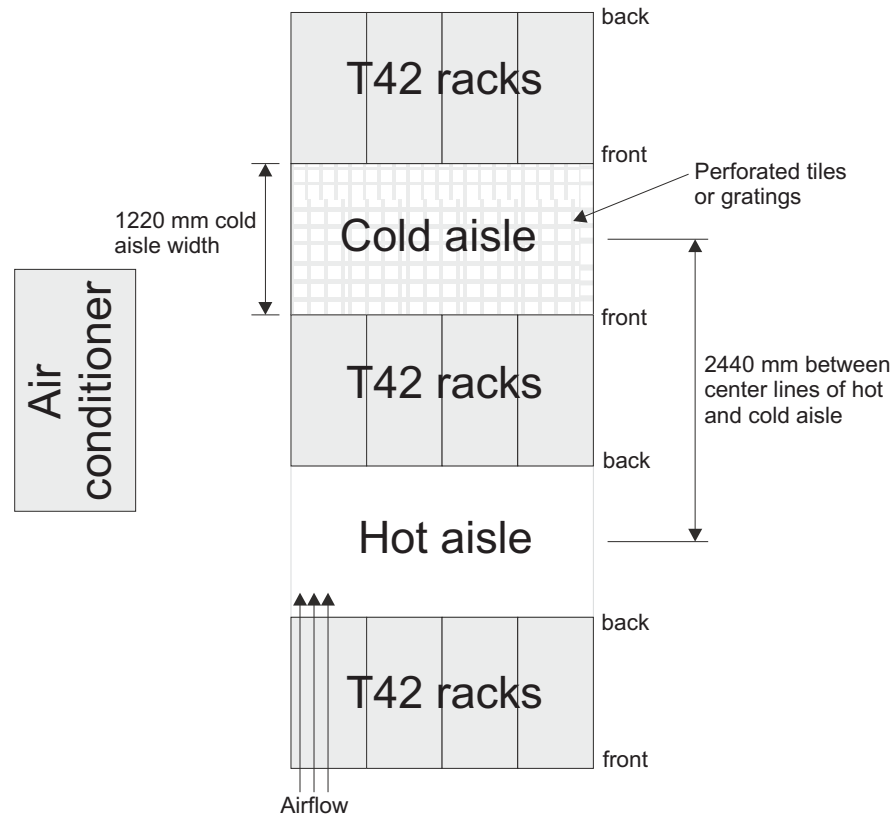

Figure 9. Example of cold aisle/hot aisle rack configuration
- Air enters at the front of the rack and leaves at the back. To prevent the air that is leaving the rack from entering the intake of another piece of equipment, you must position the racks in alternate rows, back-to-back and front-to-front. This arrangement is known as “cold aisle/hot aisle” and is shown in Figure 9 on page 15.